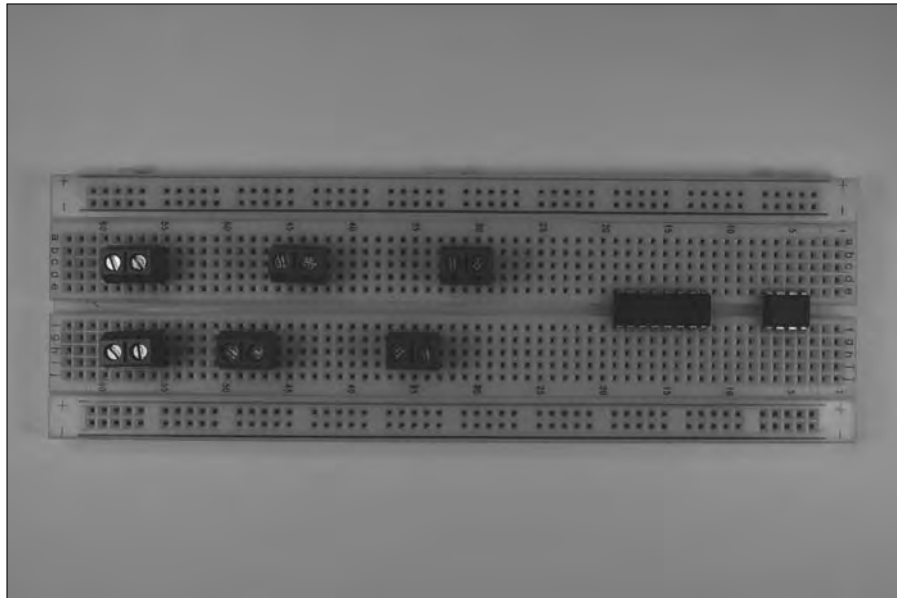

Figure 10-7:
1. Place the LM555 IC, the LM4017 IC, and six terminal blocks on the breadboard, as shown in Figure 10-7.